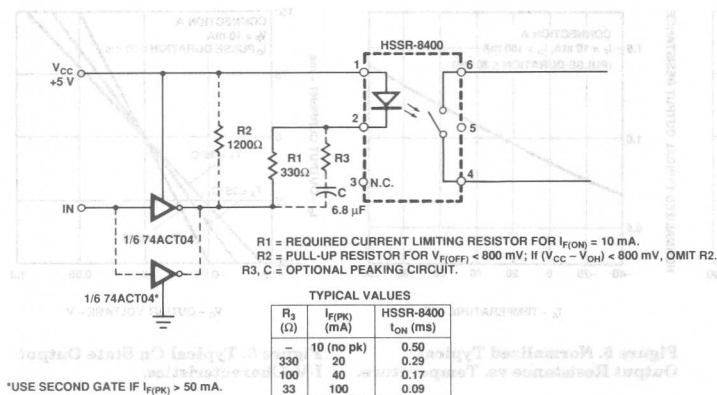

Figure 1. Recommended Input Circuit.
- For a faster turn-on time, the optional peaking circuit shown in Figure 1 may be implemented.
the population, a portion of the distribution will vary with use. The optional peaking circuit shown in Figure 1 can be used to reduce the total turn on time and, consequently, any associated variation.